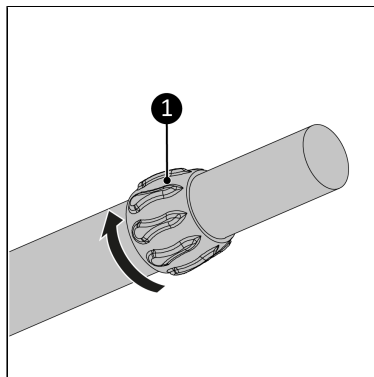

Figure 17.
1. Tighten the adjustment knob (Figure 17, pos. 1) from the adjustable tube. This will prevent the inner tube from falling out of place during assembly.